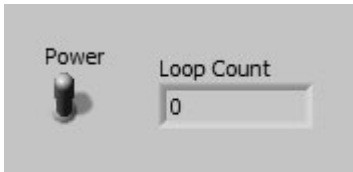

Figure 6.11
6. Build the VI shown in Figures 6.11 and 6.12. Remember, Booleans appear on the front panel in their default FALSE position. Also, remember to set the While Loop's conditional terminal to **Continue if True**.